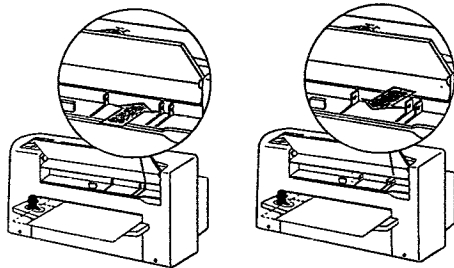

Figure A.3
2. Behind the front panel door are disengageable pull pins. If pulled out, a hole will not be punched in that location. This allows various paper sizes to be punched without nicking the edge. (See Figure A.3). **IMPORTANT: PULLPINS MUST BE COMPLETELY PULLED OUT OR PUSHED IN TO AVOID DAMAGE TO YOUR POWER PUNCH.**